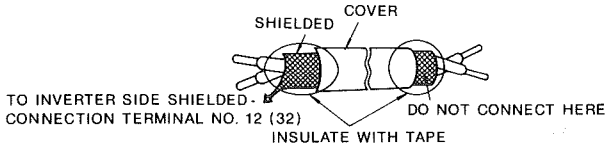

Fig. 3 Preparation of Shielded Cable Ends
- (1) Separate PAO12 control signal wiring (terminals TD1 to TD3) from main circuit wiring or other power lines.
- (2) Use shielded cable for control signal wiring and prepare the ends as shown in Fig. 3 to prevent malfunctions caused by noise. Wiring length must be 50m or less.